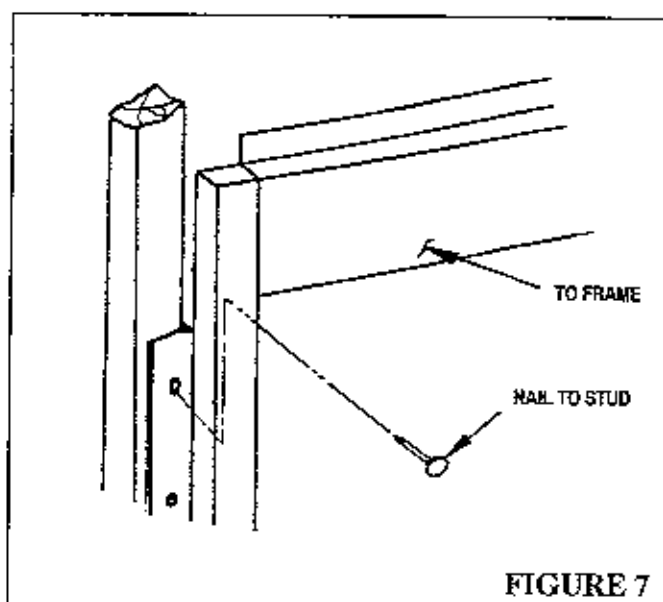

FIGURE 7
STEP 2: Position the fireplace into the framing. Secure the fireplace to the framing at the mounting flanges as illustrated in Figure 7.